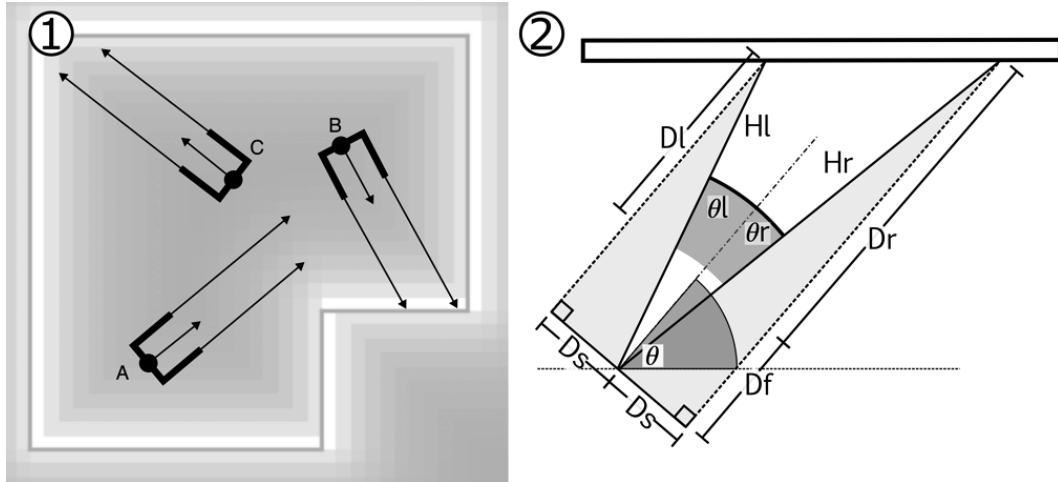

Figure 13.15 – Distance sensor geometry
Figure 13.15 (1) shows poses A, B, and C as dots, with an arrow showing their heading. There are dark bars representing the location of the two distance sensors relative to the pose – they stick out to the side and forward. From this location, we will have sensor readings, represented by the arrows pointing from the front of the bars.
Figure 13.15 (2) shows how we can project the sensors. D_s is how far the distance sensor goes out to the side (`dist_side_mm` in the code). D_f is how far forward the sensors are from the robot wheels (`dist_forward_mm`). D_r is the distance sensed, from D_f . We will have to add this to every pose. Pre-calculating a triangle from the sensed distance makes this a little easier. θ is the robot's heading. Using the *SOHCAHTOA* mnemonic, we can get θ_r , the angle from the robot's heading to the right sensor, and using Pythagoras' theorem, we can get H_r , the hypotenuse. The adjacent side will be D_f and D_r , and the opposite D_s . We can then add H_r at the θ_r angle to each pose to get the right sensor beam endpoint for every pose. The same can be applied to the left sensor reading. While complicated, this is faster than calculating the endpoint projecting out to the side and forward for each pose.